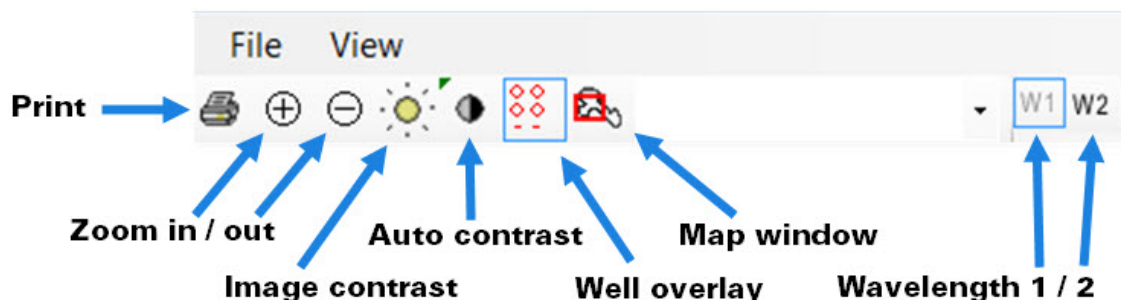

Figure 9. Image Viewer toolbar icons.
- c. If necessary, resize the fiducial image to view a 6 x 6 grid (36 nanowells). Use the following tools in the *Image Viewer* toolbar to check and correct fiducials: **Zoom in/Zoom out**, **Image contrast**, **Auto contrast**, **Well overlay**, **Wavelength 1 or 2 (W1, W2)**. Figure 9 (below) provides a legend for the *Image Viewer* toolbar icons.
3. Use the tools in the *Image Viewer* toolbar to critically examine the cells (see Figure 9, above, for a legend describing the toolbar icons).